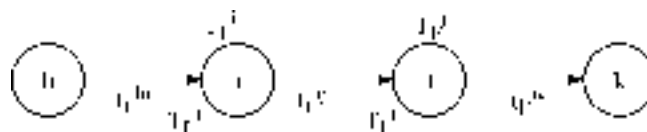

Figure 15.25
- (viii) Another type of float is "Independent Float". Referring to figure 15.25. Consider the activity $i - j$. Activity $h - i$ is predecessor to $i - j$ and activity $j - k$ is a successor to activity $i - j$ and T_L^i is to latest finish time of activity $h - i$.